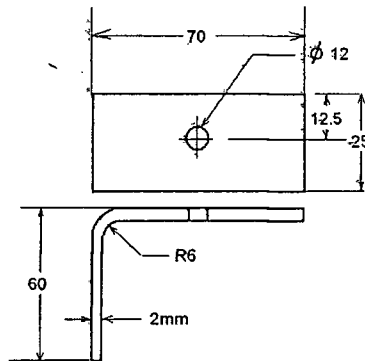

Fig.14.a
- i) Give a neat operation chart. (2)
- ii) Draw two views of the Fixture. (13)
- iii) Specify appropriate fits and tolerances for critical parts. (2)
- iv) Dimension the views and give a neat parts list (3)
14. a) i) Distinguish between bending, forming and drawing. (4)
- ii) Design and draw two views of a bending die for the part shown in Fig.14.a. The stock width is 30 mm and yield strength 50kN/cm^2
- What is the sequence of operations? (2)
- Calculate the size of Blank required (2)
- Determine the press tonnage (2)
- Design all the parts of the die. (4)
- Draw two fully dimensioned views of the die in engaged position and give a neat parts list. (6)